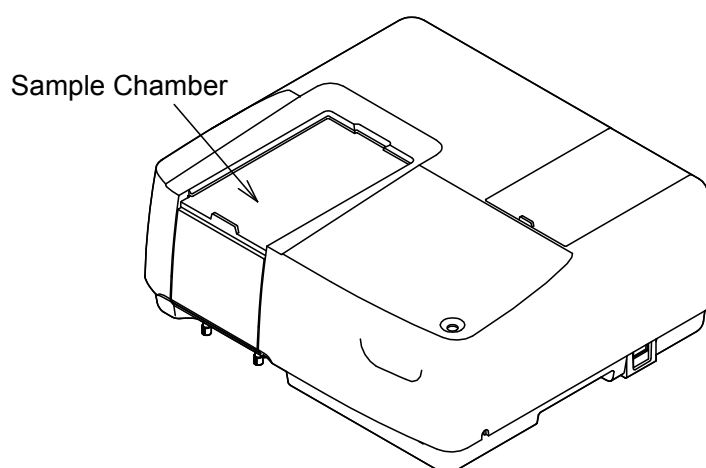

Figure 3.20 Sample chamber
*Note: If the <Measure> button is clicked without putting a check mark to [FullWaveLength], measurement will start immediately without displaying Fig. 3.20. In this case, the partial baseline is measured (see Section 4.2.1.3 [Baseline (B)...]).*
- (4) Make sure that the sample chamber is empty. Click <Start> to begin measurement. The measured baseline is saved in memory. At the same time, the [Baseline Correction] checkbox is selected. To confirm that the [Baseline Correction] checkbox has been selected, do step (1) again.